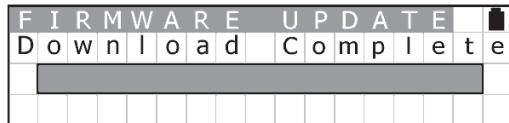

Figure 17 Software Download Complete Screen
8. After the Software Download is complete (See Figure 17), the LCD Screen will display the